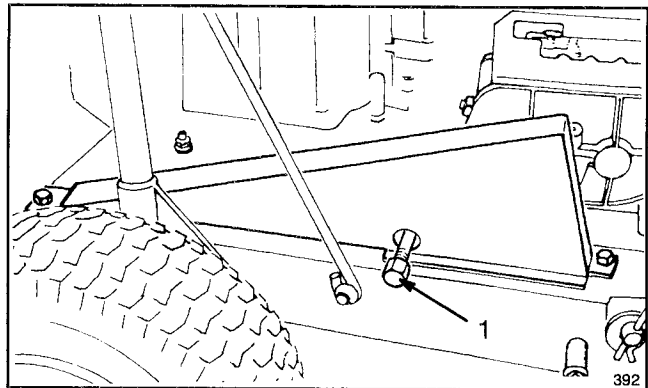

Figure 10
5. Remove drain plug (Fig. 10).